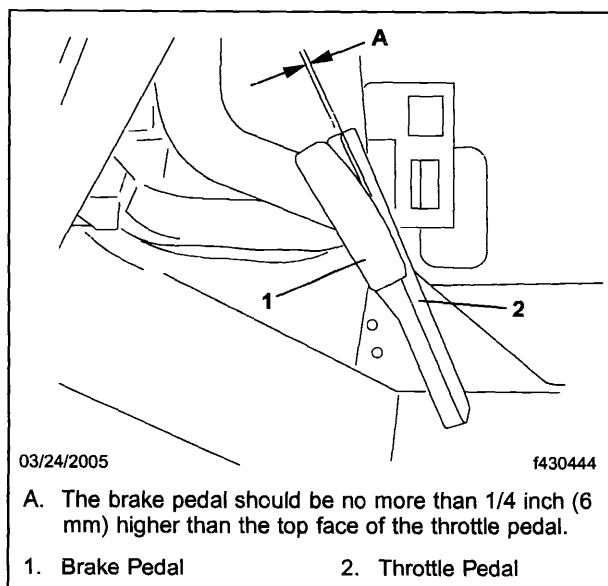

Fig. 1, Pedal Position
6. Adjust the brake pedal stop bracket to obtain a brake pedal position as shown in **Fig. 1**. The top face of the brake pedal should be flush with, or no more than 1/4 inch (5 mm) higher than, the throttle pedal.